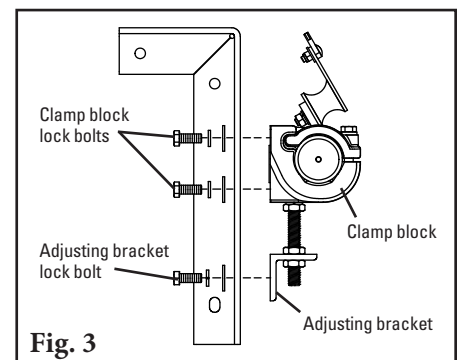

Fig. 3
- 3. Install the pole.** Remove the clamp block top strap on the access side of the conveyor, and on the opposite side loosen the clamp block bolt. Slide the pole across and into the loosened clamp block, place near end of pole in bottom section of clamp block (Fig. 3). Replace the top strap on the clamp block, center the blades on the belt and tighten both clamp block bolts finger tight.
3. **Reinstall the pole.** Slide the pole back into position on the mounting brackets, aligning marks made on the bracket and the clamp block. Install the two adjusting bracket lock bolts and tighten. Install the four clamp block lock bolts finger tight (Fig. 3).